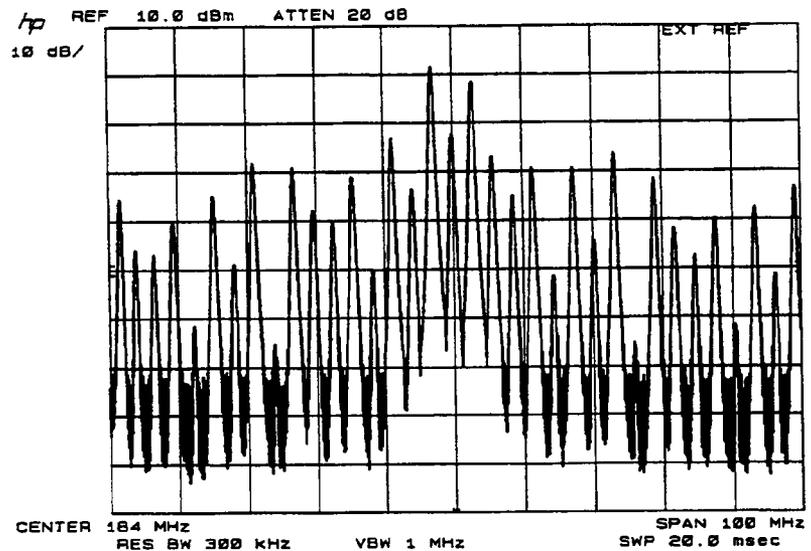

Figure 5-21. Example of a good serial test spectrum
14. The spectrum should look similar to Figure 5-21 below. The noise floor is low, and the sidebands are very prominent.
You will need to change the spectrum analyzer center frequency and span as required to display the sidebands. Also note the resolution bandwidth and video bandwidth settings in Figure 5-21. The lower sidebands will be aliased because of the low carrier frequency of the Vector Signal Generator (This problem is reduced by using two separate signal generators).